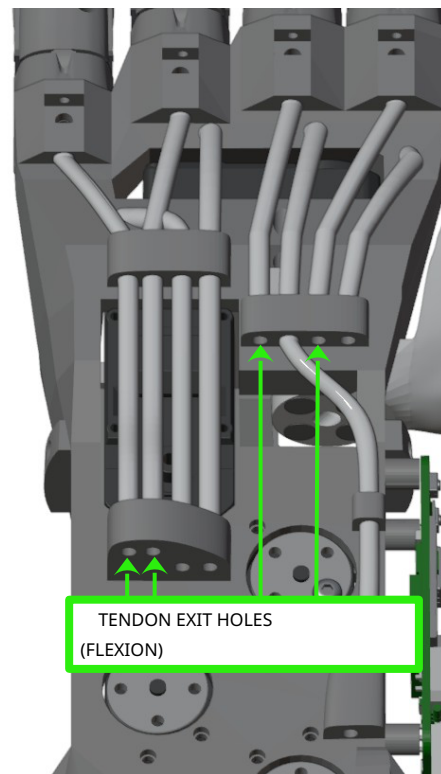

Figure 5.45: Tendon exit holes (extension)
4. Push the nylon wires until they come out of the exit hole (figure 5.45).